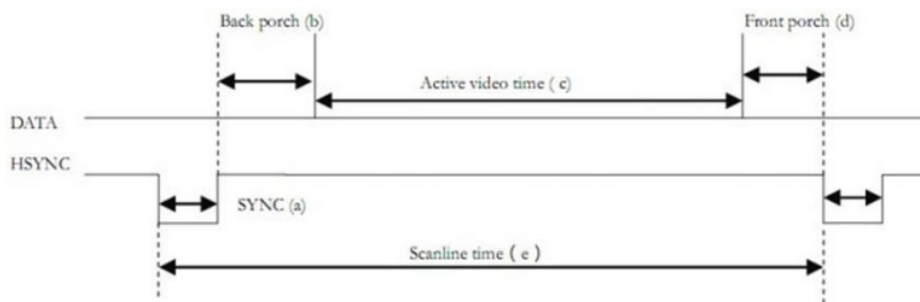

Figure 3-5: VGA Time Timing
6. VGA Display Program: lcd\_driver.v The vga\_disp.v module implements image display of a VGA display, and generates line synchronization, column synchronization, and timing of image data signals according to the VGA timing standard. VGA clock frequency: Take 1024×768@59.94MHz (60Hz) as an example. Each field corresponds to 806 line periods, of which 768 is the display line. Each display line includes 1344 points of clock, of which 1024 points are valid display areas. It can be seen that the clock frequency of VGA is required: 806\*1344\*60 is about 65MHz. Figure 3-5 and figured 3-6 detailed the timing diagram of VGA: